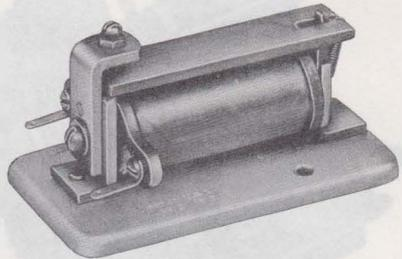

Fig. 9—4-Type Buzzer
2.12 The 4-type buzzer (Fig. 9) has the following design features: